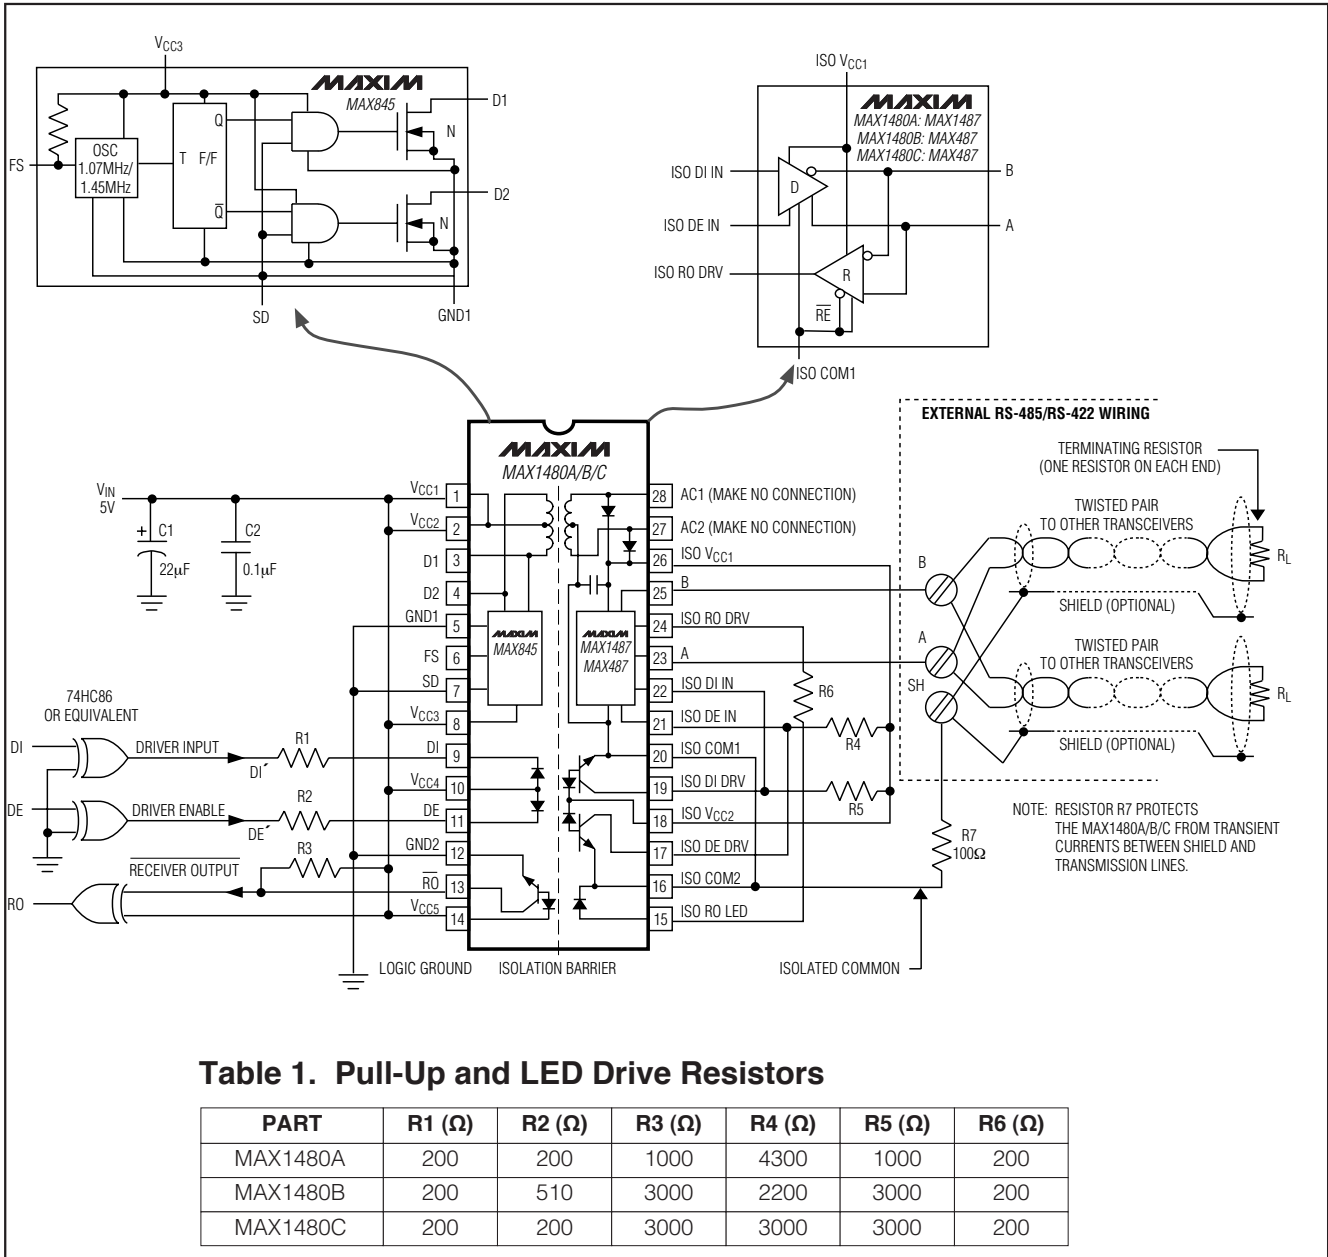
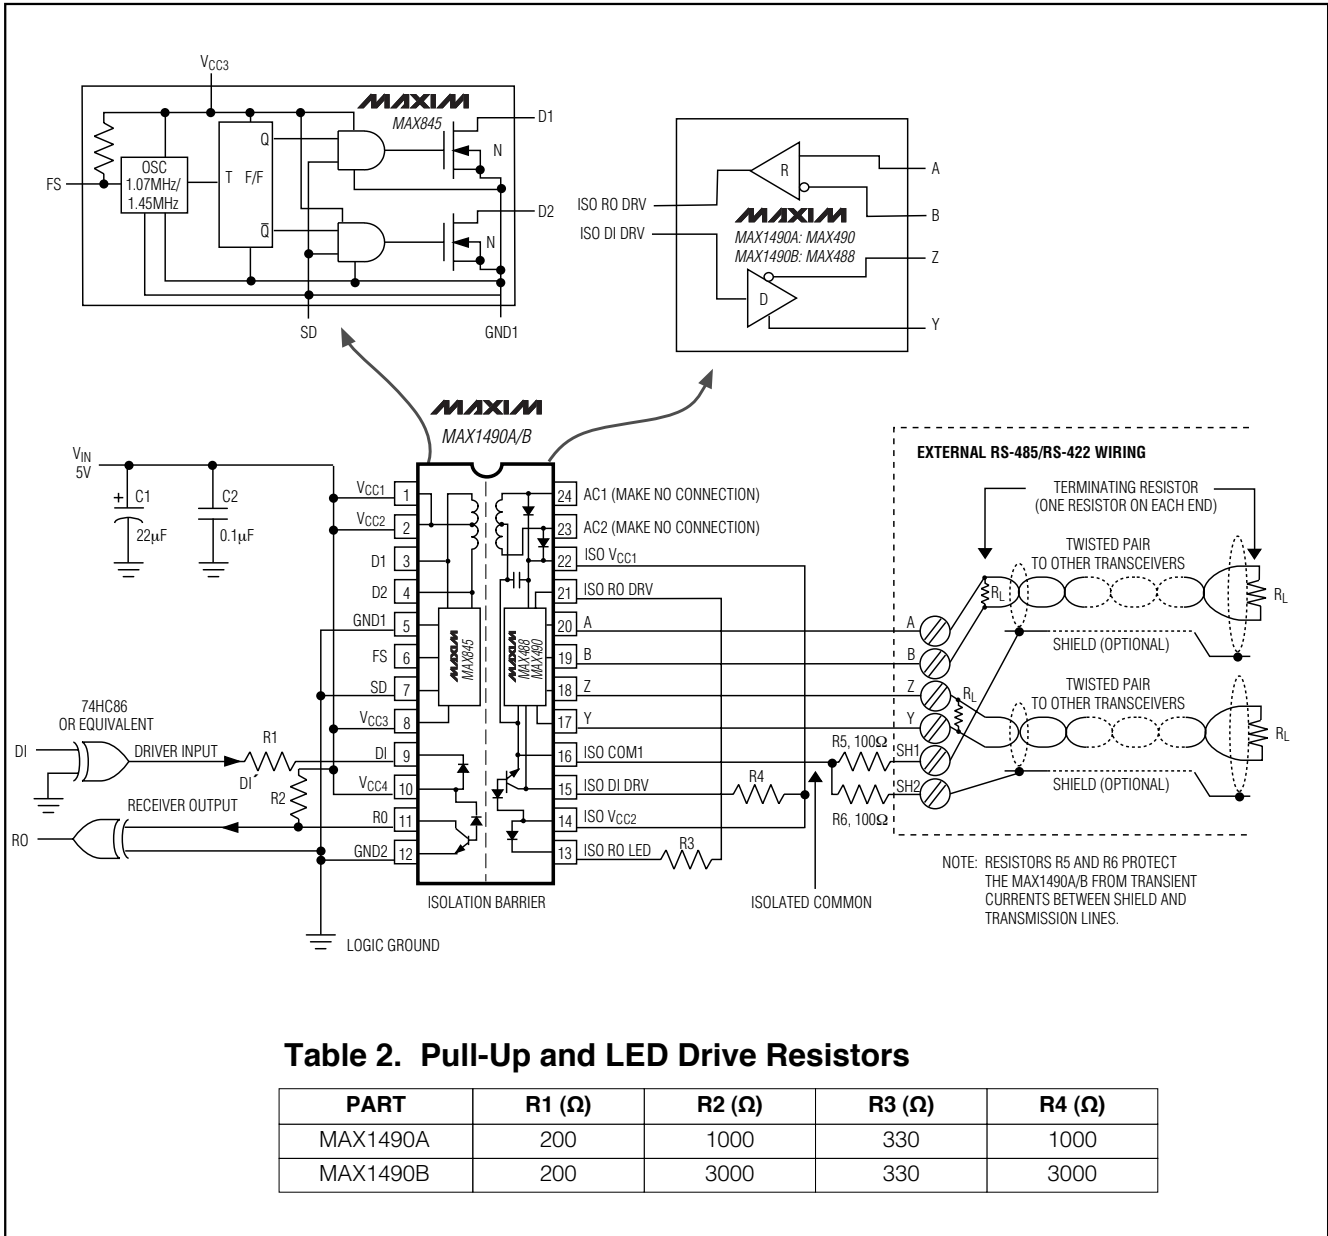

Figure 1. MAX1480A/MAX1480B/MAX1480C Detailed Block Diagram and Typical Application Circuit
Figure 2. MAX1490A/MAX1490B Detailed Block Diagram and Typical Application Circuit
Note: For DE⁺ and DI⁺ pin descriptions, see *Detailed Block Diagram and Typical Application Circuit* (Figure 1 for MAX1480A/B/C, Figure 2 for MAX1490A/B).
The MAX1480A/MAX1480B/MAX1480C/MAX1490A/MAX1490B are complete, electrically isolated, RS-485/RS-422 data-communications interface solutions. Transceivers, optocouplers, a power driver, and a transformer in one standard 28-pin DIP package (24-pin for the MAX1490A/B) provide a complete interface. Signals and power are internally transported across the isolation barrier (Figures 1, 2). Power is transferred from the logic side (nonisolated side) to the isolated side of the barrier through a center-tapped transformer. Signals cross the barrier through high-speed optocouplers. A single +5V supply on the logic side powers both sides of the interface. The MAX1480A/B/C offer half-duplex communications while the MAX1490A/B feature full-duplex communication. The functional input/output relationships are shown in Tables 3–6.
* For DE[′] and DI[′] pin descriptions, see *Detailed Block Diagram and Typical Application Circuit* (Figure 1 for MAX1480A/B/C, Figure 2 for MAX1490A/B).
The MAX1480A/MAX1480B/MAX1480C/MAX1490A/MAX1490B are specified and characterized using the resistor values shown in Table 1 of Figure 1 and Table 2 of Figure 2. Altering the recommended values can degrade performance.
The isolated common may be completely floating with respect to the logic ground and the effective network ground. The receiver input resistors will cause the isolated common voltage to go to the mean voltage of the receiver inputs. If using shielded cable, connect the isolated common to the shield through a 100Ω resistor. In the case of the MAX1490, each shield should have its own 100Ω resistor (Figures 1, 2, 13, and 14).